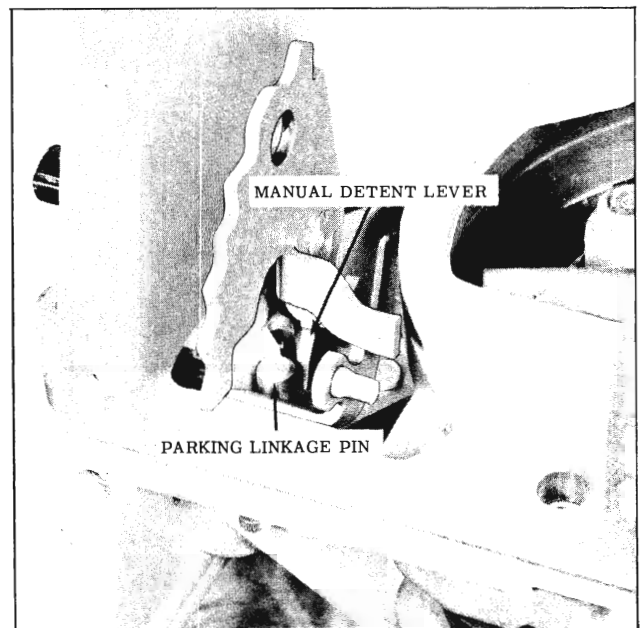

Fig. 3-108 Aligning Parking Linkage
8. Carefully align parking linkage pin and manual detent lever as rear bearing retainer is aligned with dowel pin and case. (Fig. 3-108)